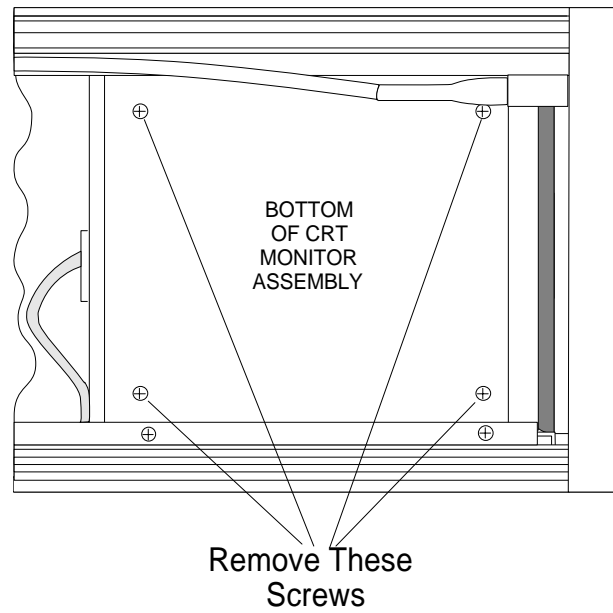

Figure 7-7. *CRT Monitor Assembly Removal (Bottom)*
- Step 2.*** Remove four screws, flat, and lock washers (Figure 7-7).